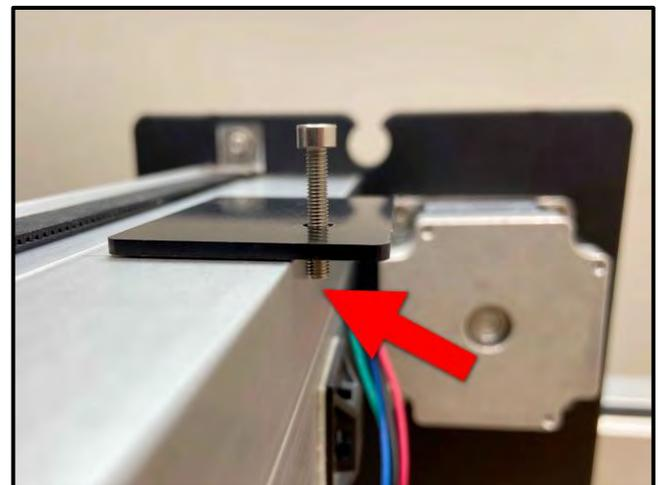

Figure 9
PRO TIP: Screw a M3×18mm SHCS about 2–3mm into the plate's PEM nut. The protruding screw will help you get the nut as close to the rail as possible without obstructing it. See **Fig. 9**.
2. Attach one (1) tail plate to the Y1-rail. See **Fig. 9**.